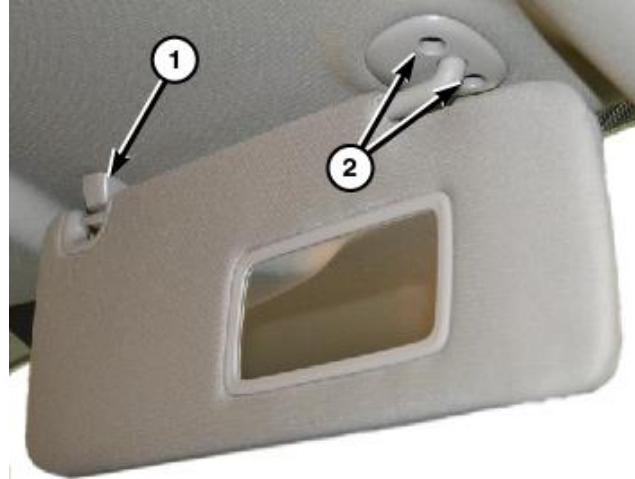

Figure 55 – Visors
17. Separate the visor from the support (1) then remove the screw and remove the visor support (Figure 55).
18. Remove the visor screws (2) then remove the visor (Figure 55).
44. Position the visor supports (1) onto the headliner and install the screws into the mounting clips (Figure 55).
46. Position the visor to the headliner and install the screws (2) that secure the visor to the roof panel. Tighten the screws to 6 N·m (53 in. lbs.) (Figure 55).